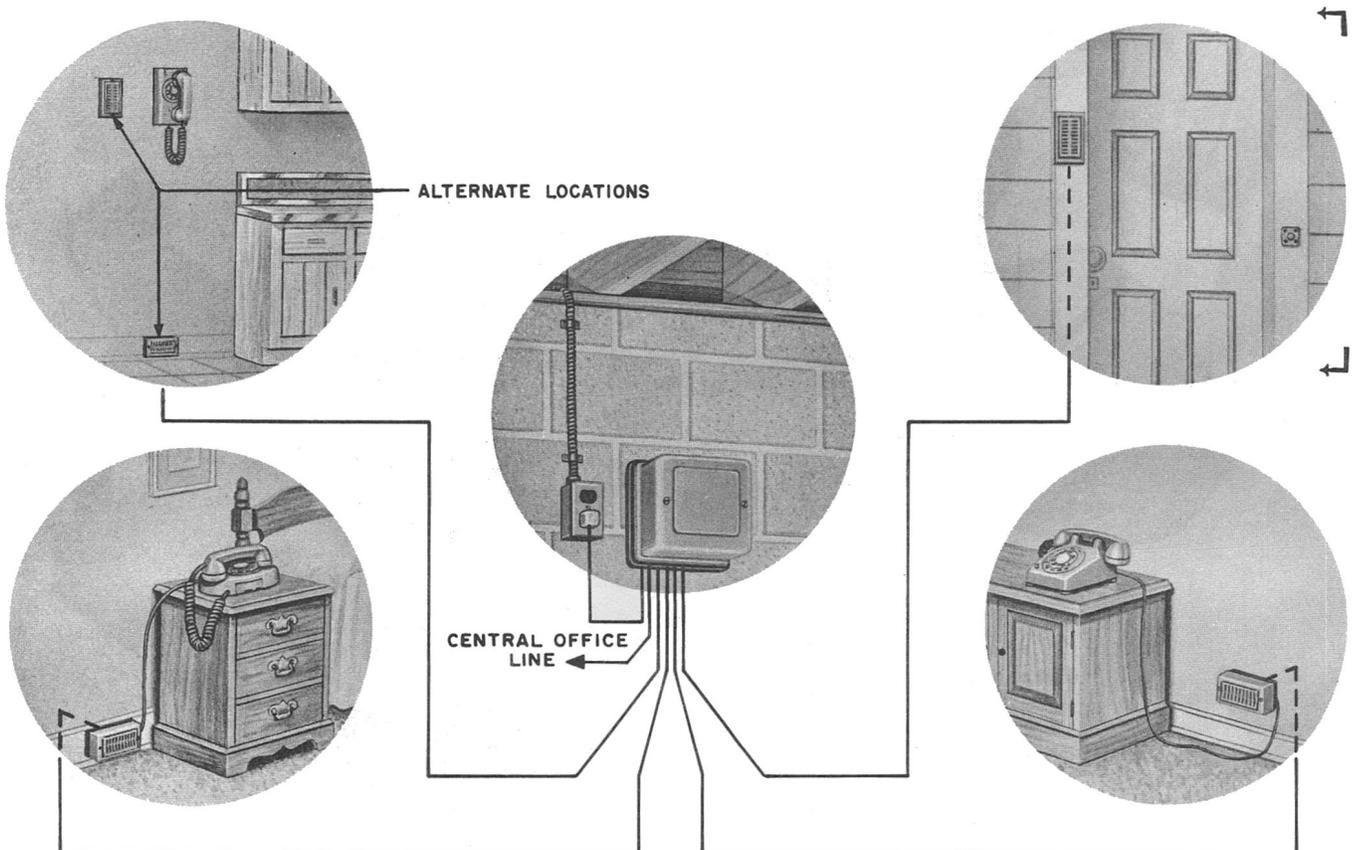

Fig. 1 — 1A Home Interphone
- Change Fig. 1 to show alternate loud-speaker location in kitchen installation.
1.03 The 1A home interphone is limited to five stations and two door-answering units. Sample arrangements are shown in Fig. 1.